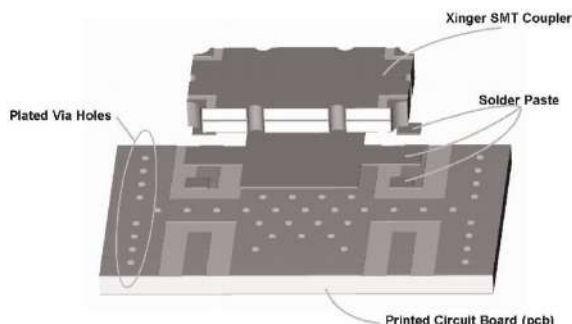

**Figure 2: Solder Paste Application**
**Solder Paste:** All conventional solder paste formulations will work well with Anaren’s Xinger III surface mount components. Solder paste can be applied with stencils or syringe dispensers. An example of a stenciled solder paste deposit is shown in Figure 2. As shown in the figure solder paste is applied to the four RF pads and the entire ground plane underneath the body of the part.